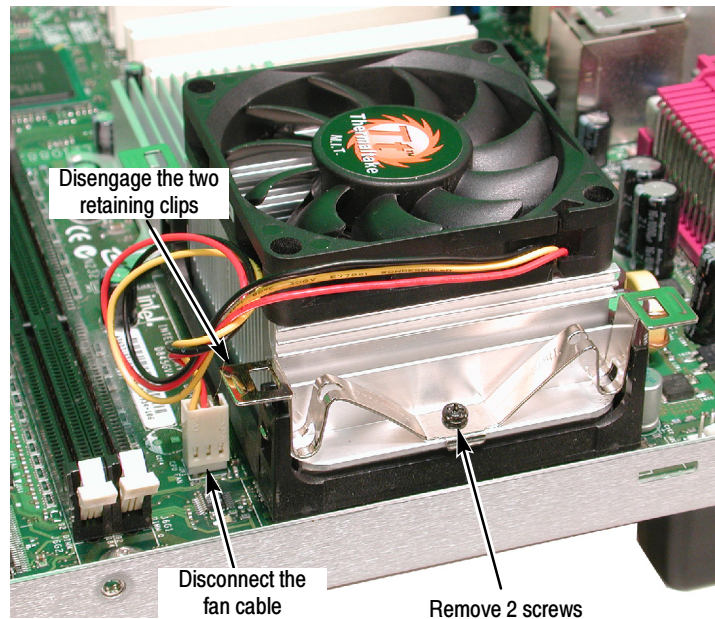

Figure 13: CPU assembly
4. *Move the CPU assembly from the old Mother board assembly to the new assembly: See Figure 13.*